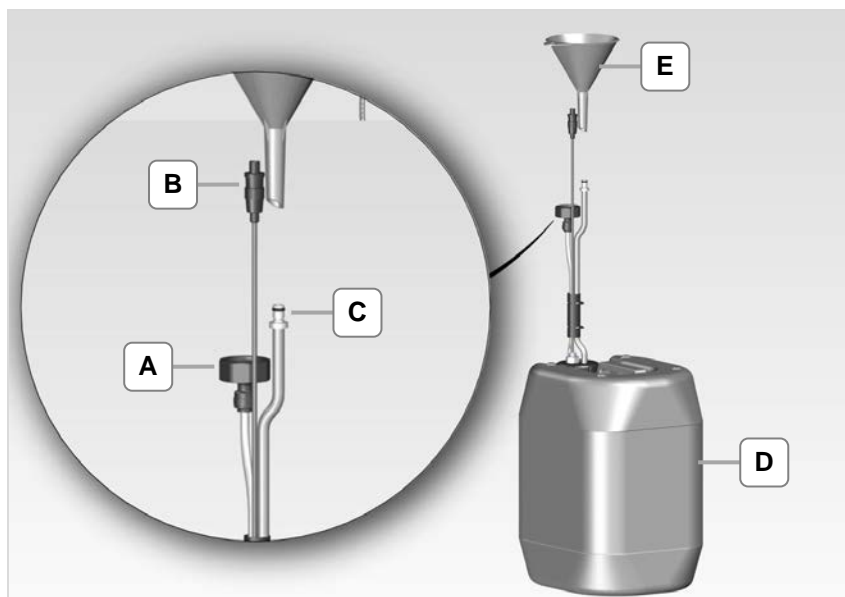
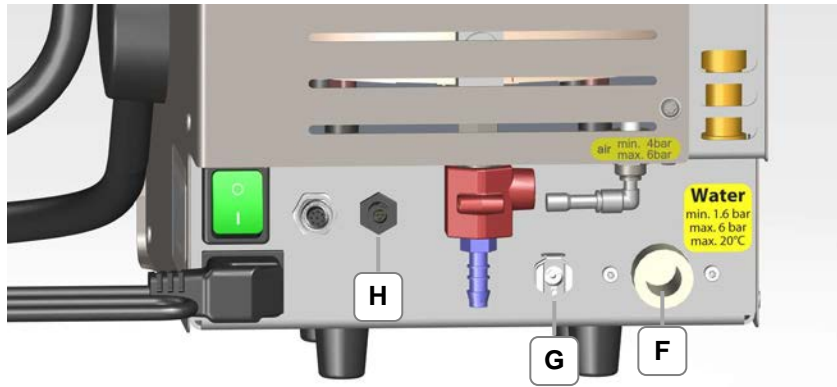
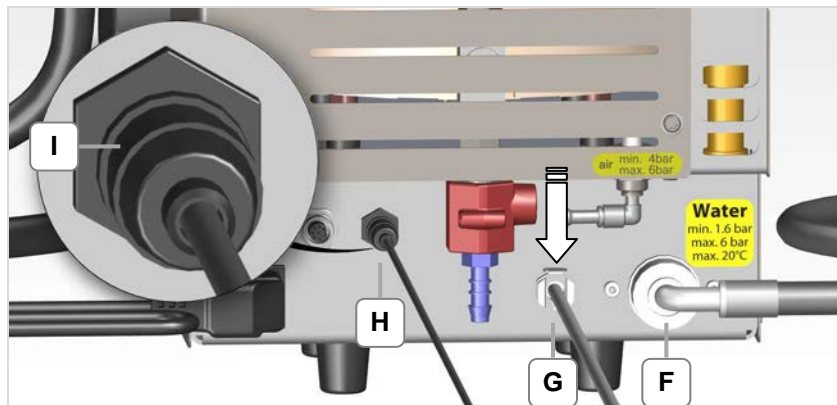
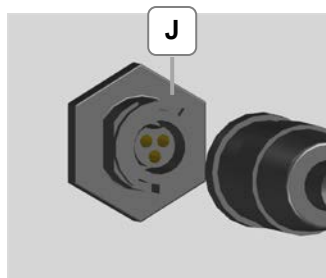

Figure 4.5.1: Canister with accessories
Figure 4.5.2: Connections for the canister (rear side of the device)
Figure 4.5.3: Connections for the canister connected
Figure 4.5.4: Plug alignment (J)
1. Screw on the screwed thread (Figure 4.5.1-A) of the water hose onto the water connection of the device (Figure 4.5.2-F). Inspect whether the seal is positioned correctly in the screwed thread (Figure 4.5.1-A).
2. Connect the cable connector (Figure 4.5.1-B) for the fill level monitoring to the connection (Figure 4.5.2-H) and turn the front cap (Figure 4.5.3-I) until it locks. Observe the plug direction (Fig 4.5.4-J).
3. Insert the ventilation hose (Figure 4.5.1-C) into the connector (Figure 4.5.2-G).
<ul style="list-style-type: none"> • Maintain a proper and secure attachment of the connections. • Inspect the connections (Figure 4.4.3-E + F) for leak tightness and function. • Ensure when connecting the ventilation hose that the locking lever (Fig 4.5.3-G) points downwards in the direction of the arrow!